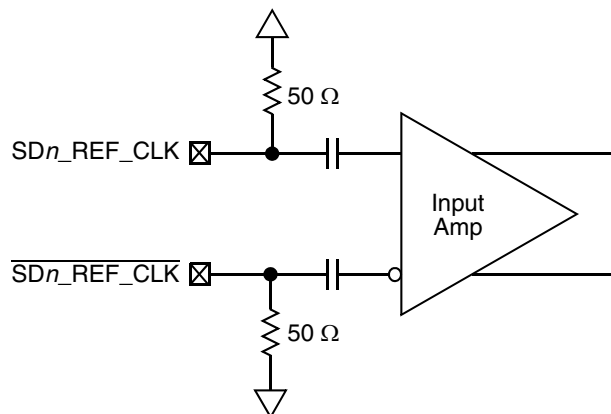

Figure 41. Receiver of SerDes Reference Clocks
Figure 41 shows a receiver reference diagram of the SerDes reference clocks.
- The SD_n_REF_CLK and SD_n_REF_CLK are internally AC-coupled differential inputs as shown in Figure 41. Each differential clock input (SD_n_REF_CLK or SD_n_REF_CLK) has a 50-Ω termination to SGND_SRDS_n (xcorevss) followed by on-chip AC-coupling.